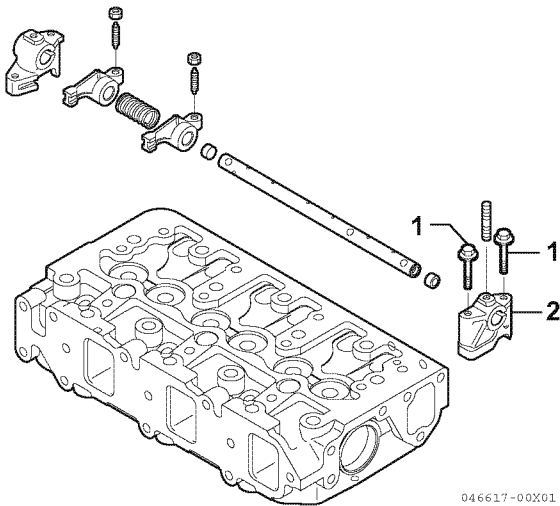

Figure 6-5
1. Remove the bolts (1, **Figure 6-5**) that retain the four rocker arm shaft supports (2, **Figure 6-5**).